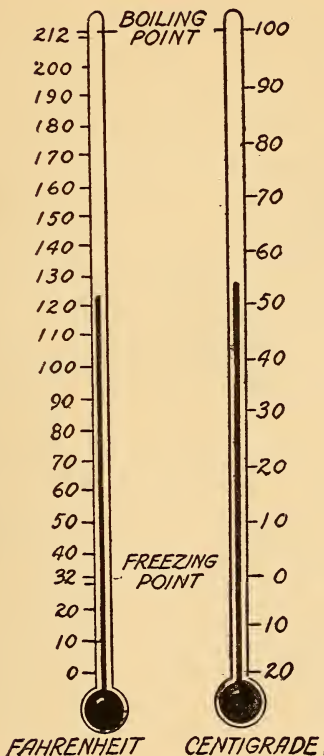

FIG. 23. FAHRENHEIT AND CENTIGRADE SCALES COMPARED
in scientific work and (2) the *Fahrenheit*, used in every day life, and both are shown in Fig. 23. The *freezing* and *boiling points* of these two scales are:—